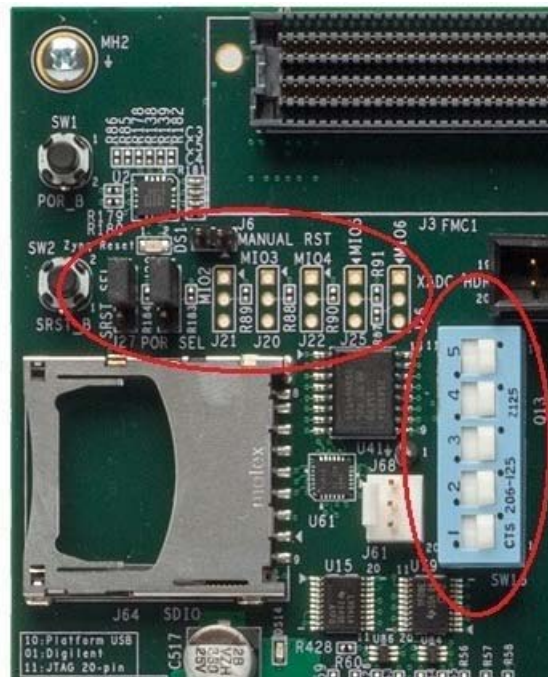

Figure 5-7: Ensure the SW16 Switch Setting
- b. Ensure that the SW16 switch is set as shown in Figure 5-7.